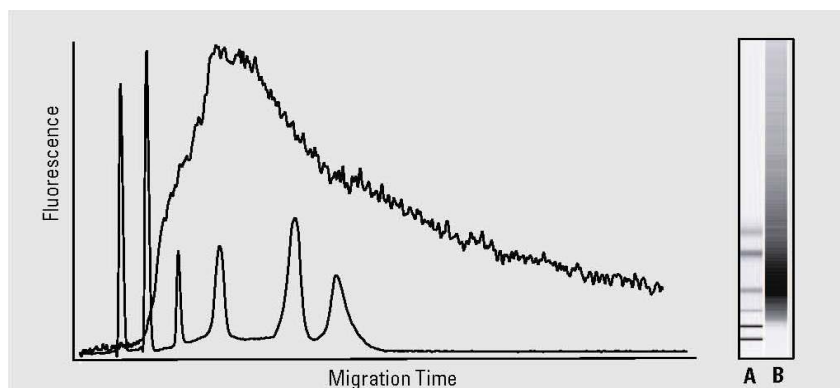

Figure 6. Poly (A) + RNA overlapped with RNA 6000 ladder ^[3]
Intact poly (A)+ RNA samples display broad size distributions [figure 6] and the size range can be estimated by overlaying the RNA 6000 ladder containing RNA fragments of known size. Large transcripts are detected late in the analysis window ^[3].